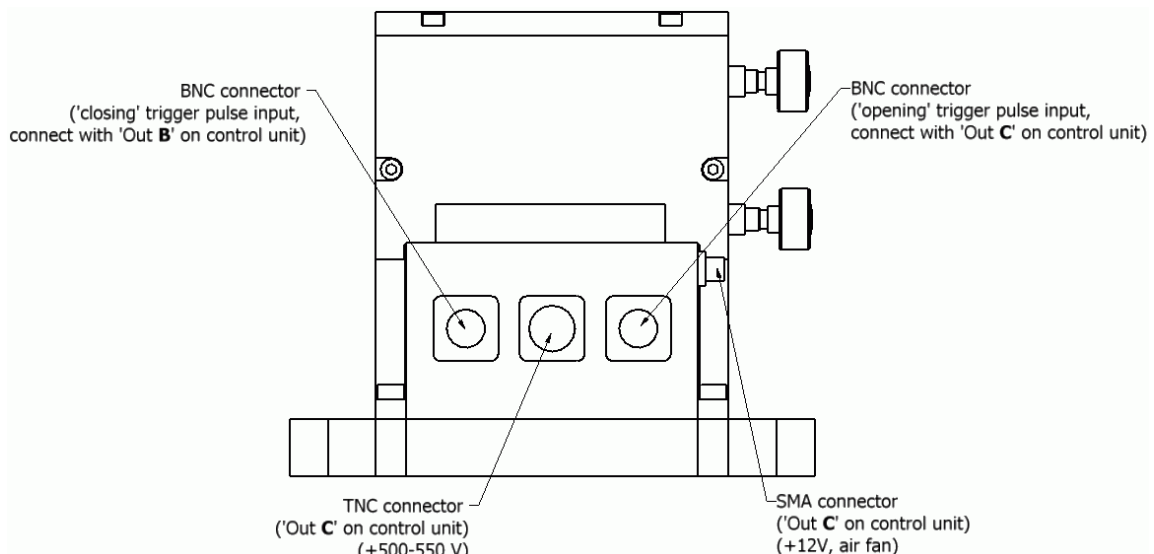

Figure 13. Connectors on the Pockels Cell (OG88-1).
11. Connect the control unit and the Pockels cell shutter OG88-1 (see Fig. 13)